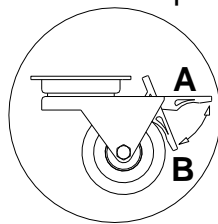

Fig.3 Caster unit
| Fig.3 Caster unit | 6 |
- Place the device on an even and sufficiently firm surface, then level it using the leveling feet. In the case of mobile devices caster locks should be used in order to prevent movement during operation Fig.3 \(p.6\).